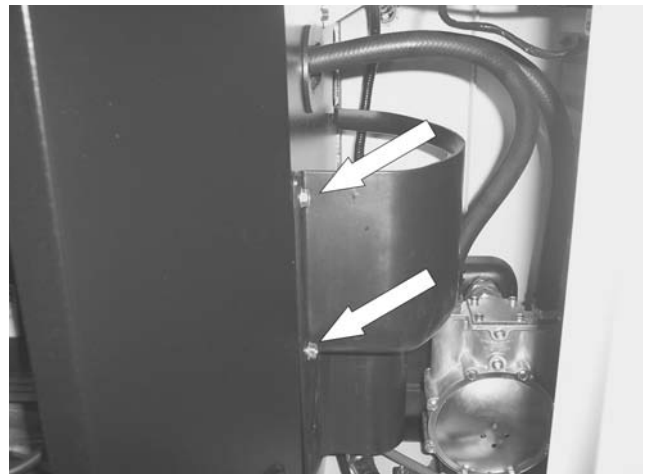

Figure 9.
7. Remove engine intake baffle: Using a 10mm socket remove the two bolts from the engine intake baffle. Pull baffle toward you carefully, there are tabs holding the backside of the baffle to the divider panel. See Figure 9.